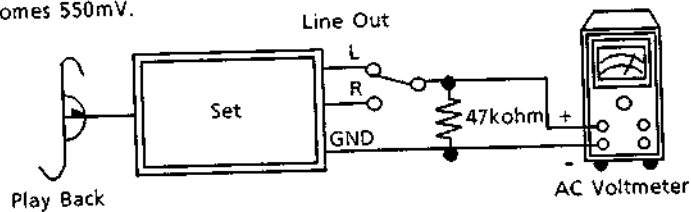

Figure 18
- (1) Make the connections as shown in Figure 18 and turn the power ON.
- (2) Insert test tape MTT150 into deck A and play it back.